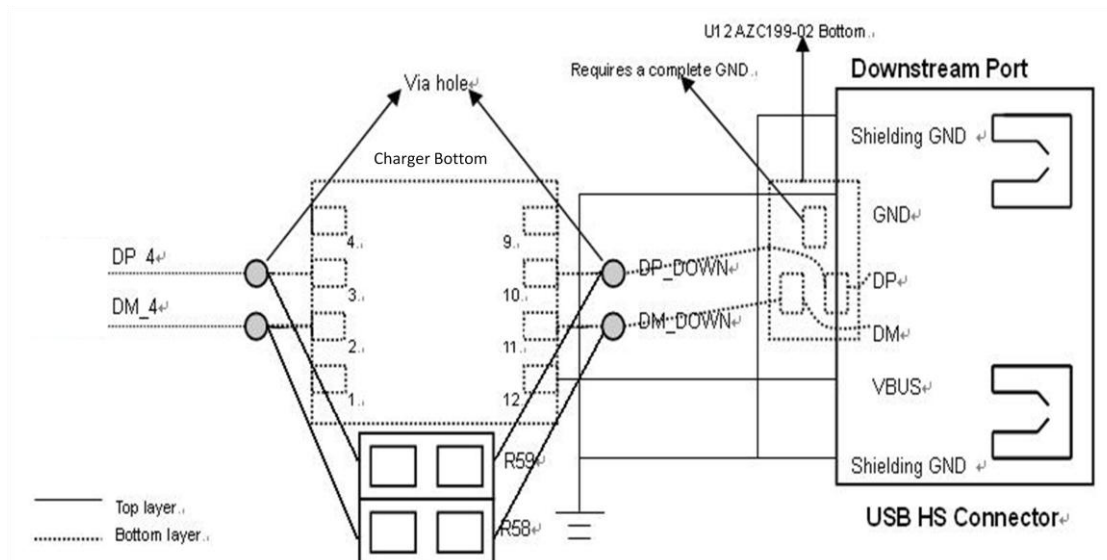

Figure 4.2
**Fig. 4.2** shows the suggested layout guide if the external charger IC is implemented for battery charging function.